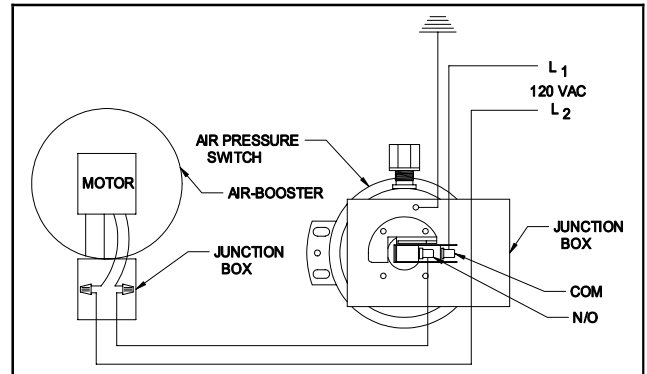

Figure 5
7. Refer to the wiring diagram to determine the proper wiring connections. Attach all of the wires as indicated in the diagram. Secure the box cover to the box when complete. (See Figure 5)